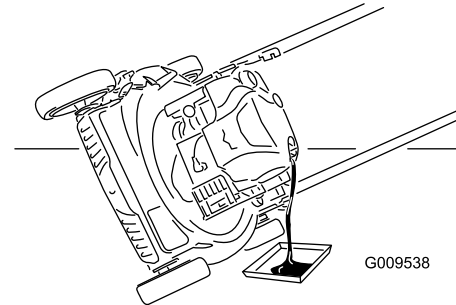

Figure 24
4. Tip the machine onto its side with the dipstick down to drain the used oil out through the oil-fill tube (Figure 24).